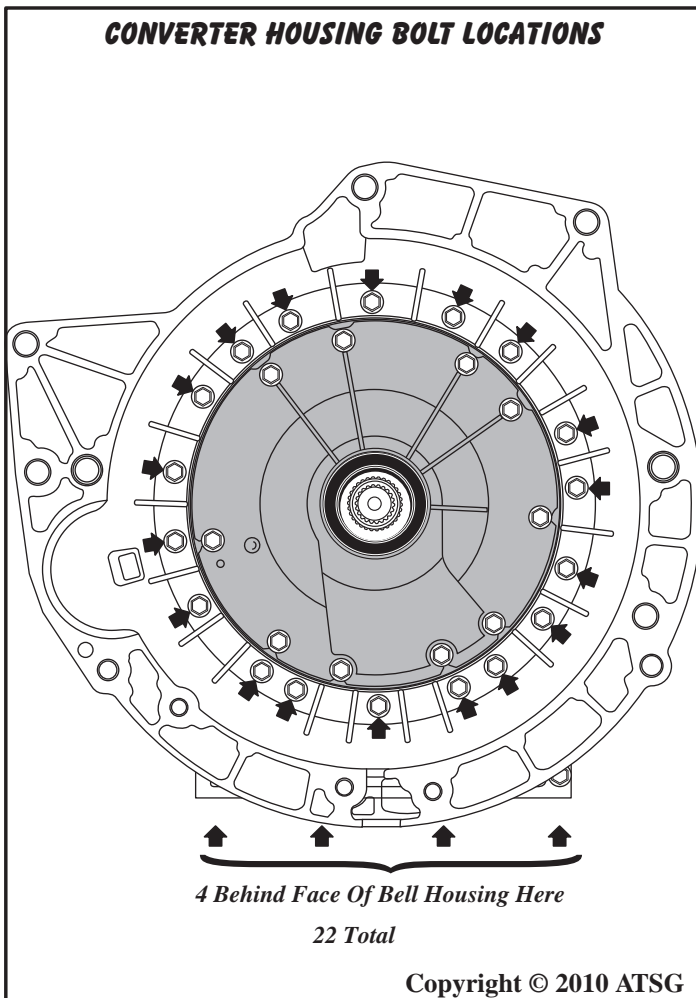

Figure 39
5. Remove the 22 converter housing retaining bolts, which is the outer row, as shown in Figure 39, using a 12 MM socket.
Note: Four of the converter housing bolts are behind the face of housing, as shown in Figure 39.